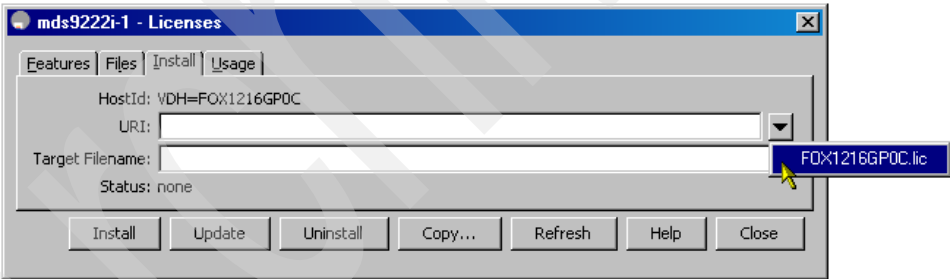

Figure 6-25 Selecting a license file to install
2. On the **Install** tab, click the pull-down icon to display available license files (in the bootflash), as shown in Figure 6-25.